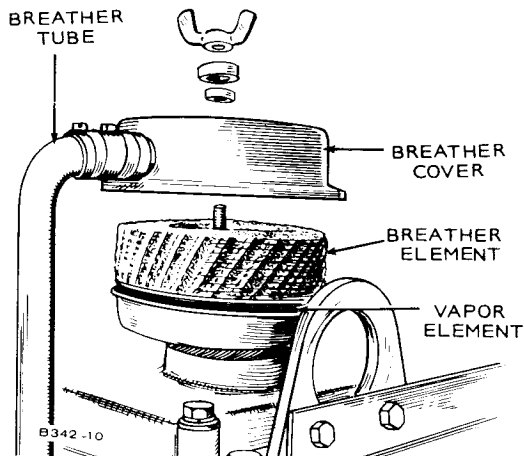

FIGURE 31. CRANKCASE BREATHER FILTER
1. Remove wing nut, flat washer and rubber washer holding cover, lift cover and swing away from filter assembly (see Figure 31).